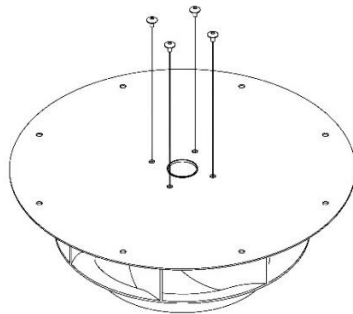

Figure 19
12.) Remove (4) M4 screws holding fan motor onto backplate with an Allen wrench. See Figure 19.
- 14.) Using an Allen wrench, attach new fan motor to backplate with (4) M4 screws. See Figure 19.